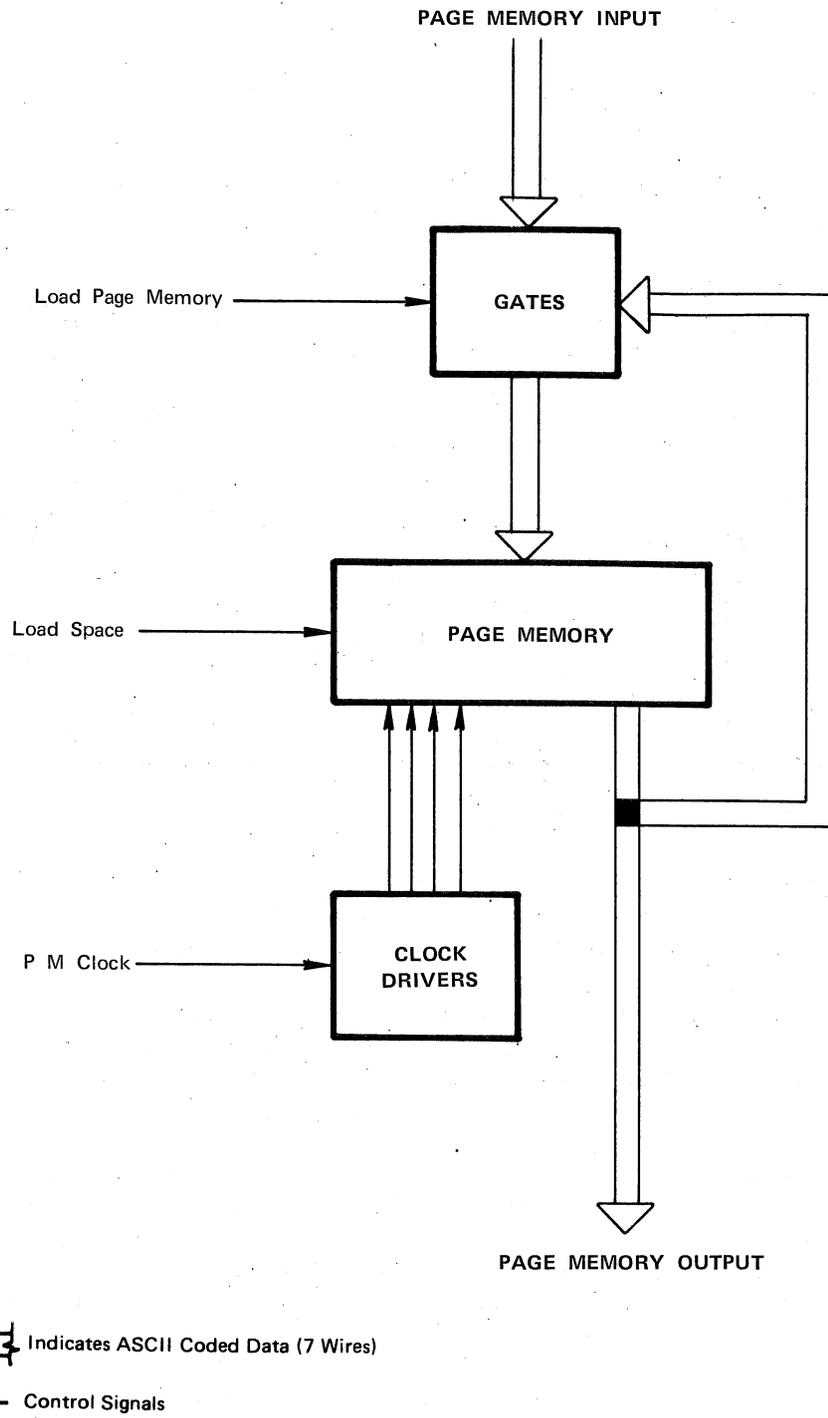

FIGURE 10 FUNCTIONAL DIAGRAM - PAGE MEMORY
**PAGE MEMORY - Board 3. See Functional Diagram, Figure 10.**